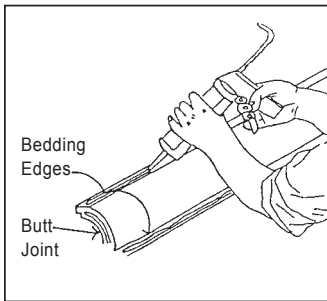

Figure 1
- Apply DegaBond 948 Adhesive #33333 to top and bottom bedding surfaces, corners, and butt joints (*figure 1*). Screw or nail moulding to the wall and ceiling, spacing fasteners 6" apart and 3/8" from edge.